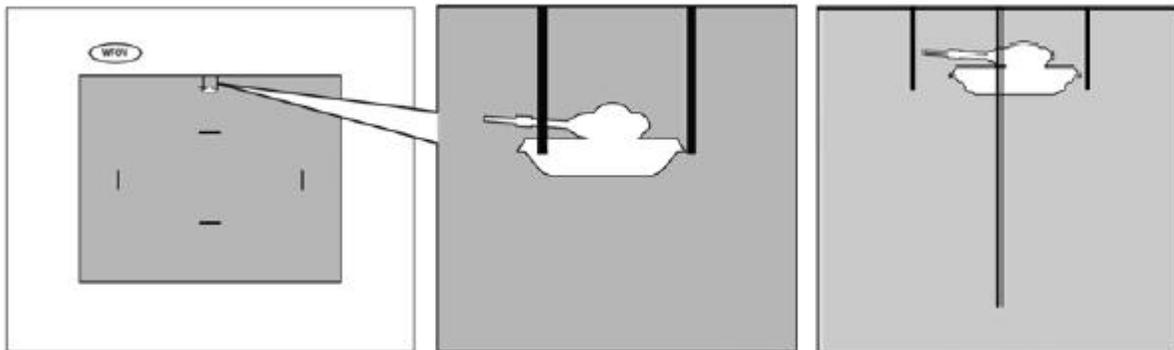

Figure 2. WFOV Stadia (left), WFOV target in-range (center), NFOV target out-of-range (right)
a. Determine target engageability using full stadia method (Figure 2).